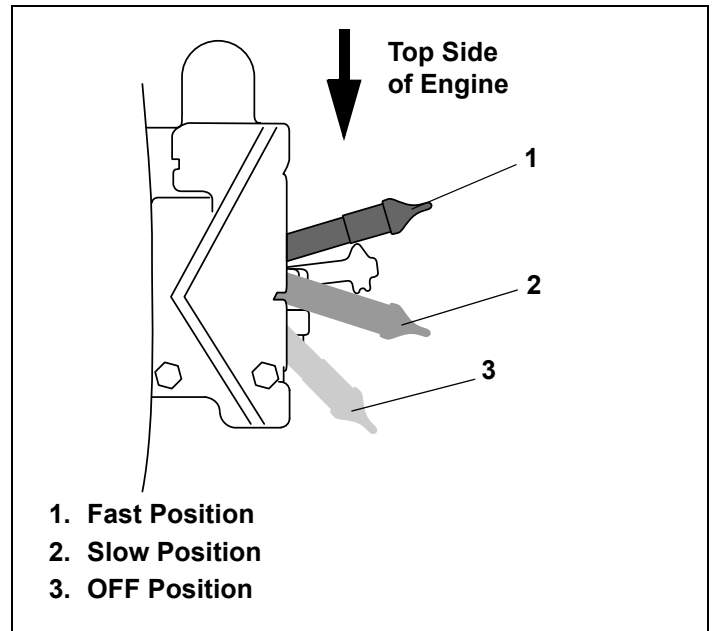

Figure 16. Engine Speed Control
2. Move equipment control, if present (see manufacturer's instructions), engine control lever or ignition switch back and forth several times and leave control in "STOP" or "OFF" position. See Figure 16.